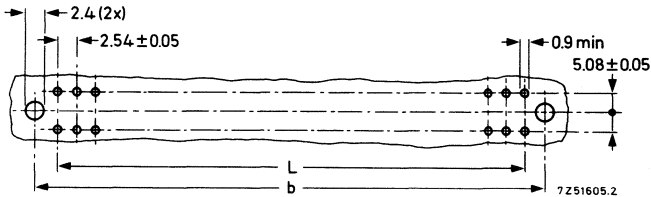

Fig. 9. For dimensions b and L, see Table 2.
1. Use the piercing diagram shown in Fig. 9.